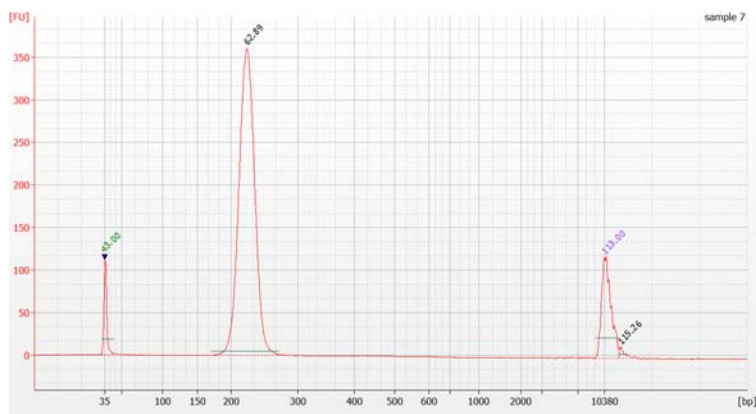

Figure 6 Analysis of size-selected, target enriched DNA using the Bioanalyzer High Sensitivity DNA Assay.
- 5 Verify that the electropherogram shows a peak of DNA fragment size at approximately 220 bp. A sample electropherogram is shown in Figure 6.